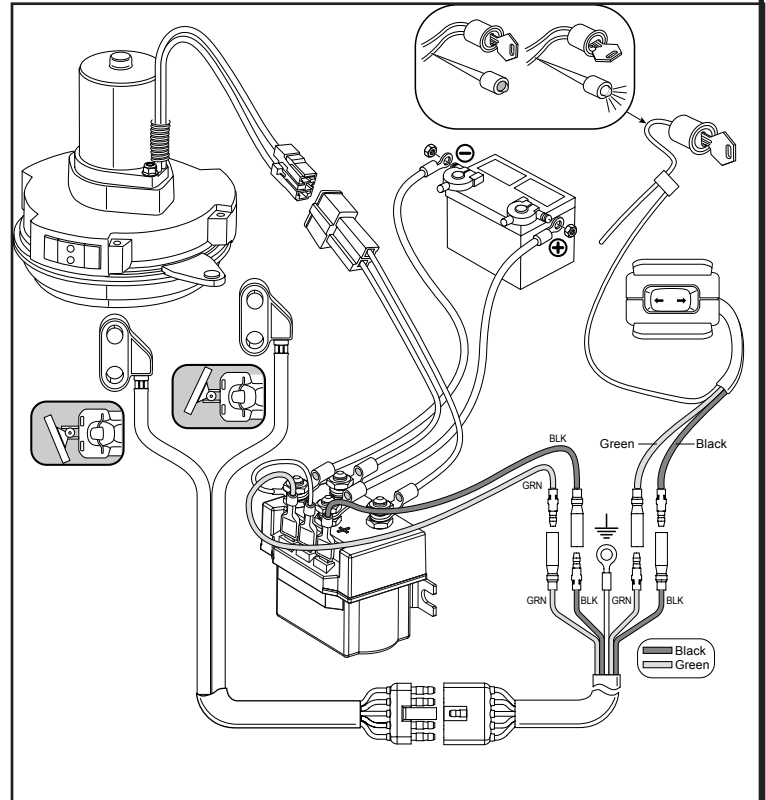

Figure 16
1. The contactor is a primary safety feature in your Pro-Pivot system. It disconnects your Pro-Pivot from its power source when the ATV is not in use. The contactor must be correctly installed to work properly. It is recommended that the contactor be mounted in a location that is as clean and dry as possible. Exact location will vary, depending on the ATV. See figure 16.
2. Connect the contactor wiring to the vehicle battery. When possible, route the winch kit power (red) and ground (black) wires along the ATV's existing wire routing path Figure 16 in the under seat and battery location areas. Ensure the wiring is not pinched when the seat is reinstalled.